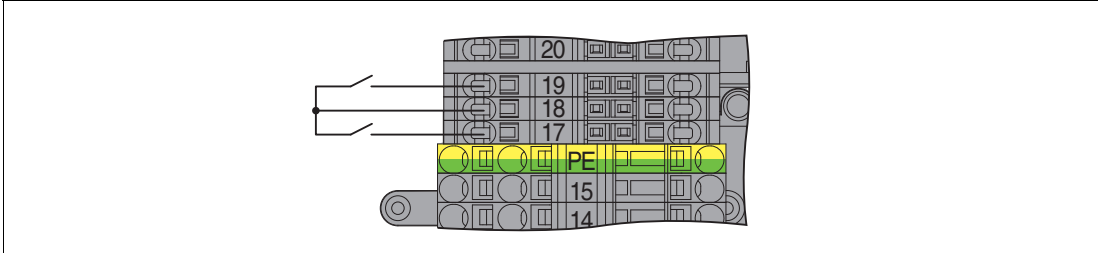

Figure 4.6 Output shutdown connection
1. To use the output shutdown of the I/O modules on slots 1 to 10, replace plug-in jumper 18/19 with an external, volt-free contact, see Figure 4.6.
2. To use the output shutdown of the I/O modules on slots 11 to 20 (not for FB9261BP10220.*), replace plug-in jumper 17/18 with an external, see Figure 4.6.